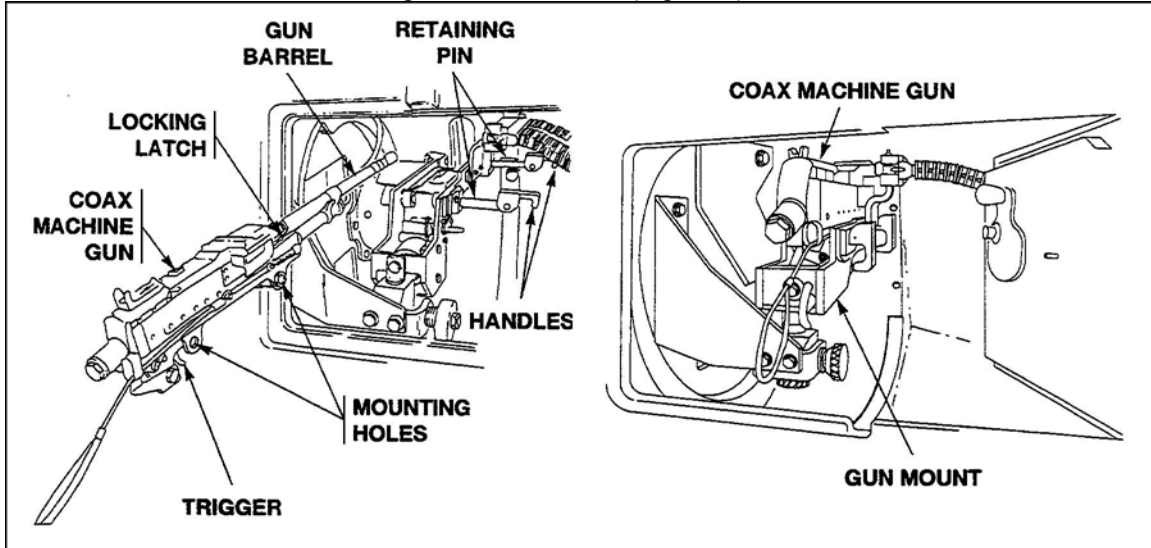

Figure 3. Coax machine gun mount.
- (1) Unlatch the commander's tactical display (CTD) from its bracket.
- (2) Release handle on right access door to open.
- (3) Pull out on left side of CTD to open the left access door.
- (4) Push in right side access door to open.
- c. Remove the coax machine gun from its mount (Figure 3).